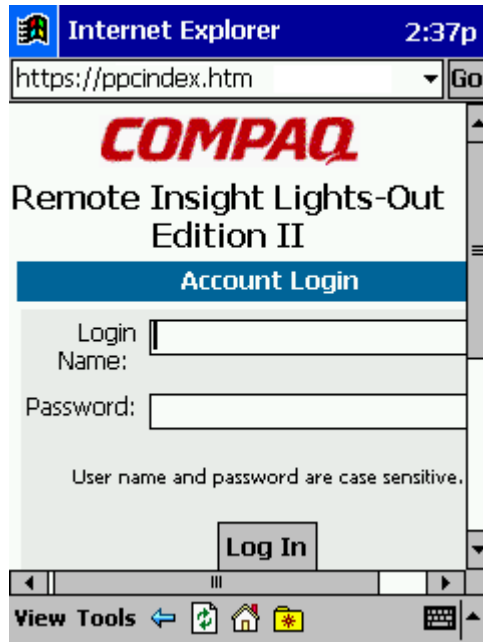

Figure 5-15: Login window for iPAQ
3. In the login window, Figure 5-15, enter a valid user ID and password and tap **Go**. Do not enable the **Save Password** option.